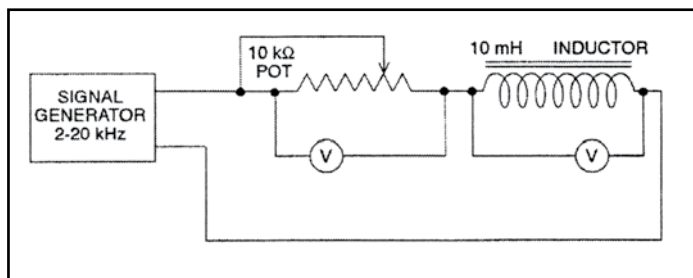

Fig. 3-5. When XL equals R , the two voltage drops are equal. Courtesy of Delmar Learning.
2. Construct the circuit in *Figure 3-5* and connect it to the signal generator.